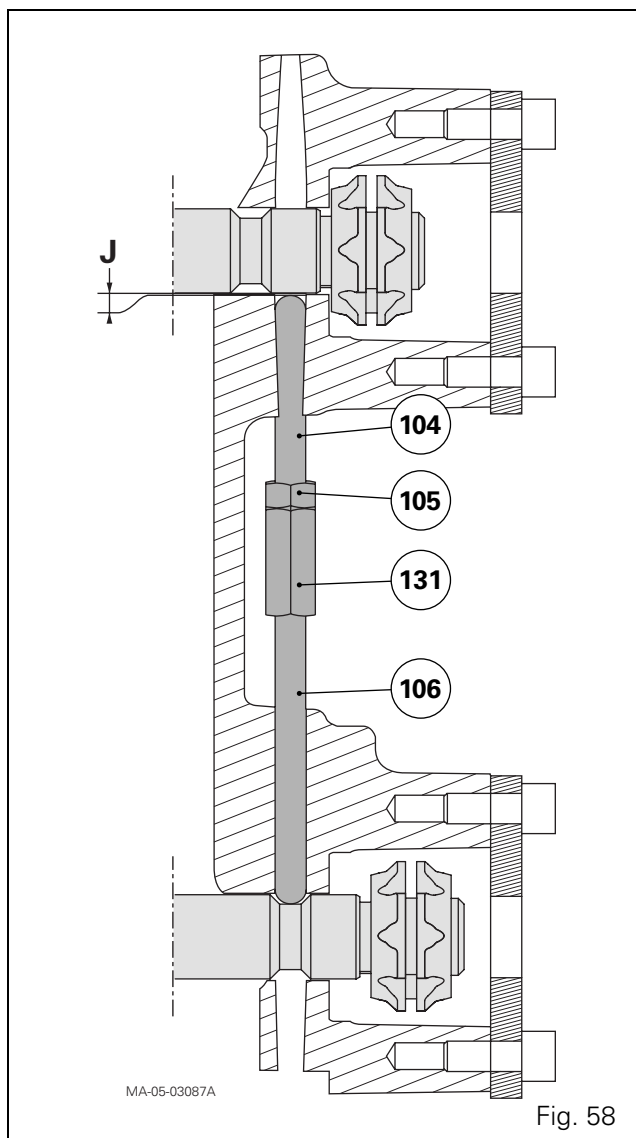

Fig. 58
148. Unscrew the rod (104) until the lock reaches maximum axial clearance as shown in (Fig. 58):